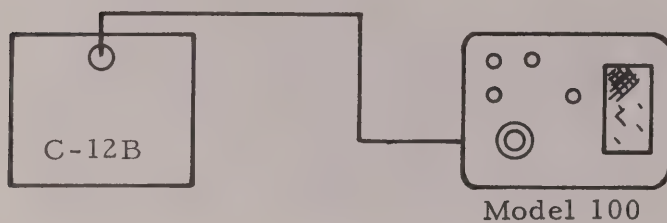
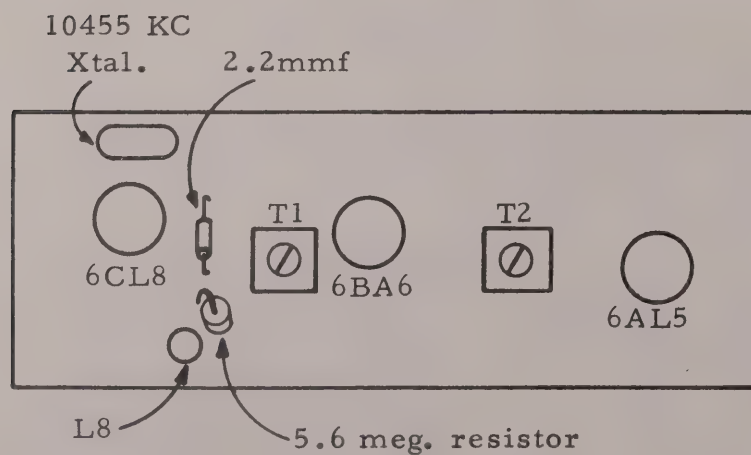

FIG. 1
FIG. 3
- (1) Remove case from the Executive
- (2) Remove 10455 KC second IF crystal
- (3) Connect high impedance DC VTVM probe to grid of second mixer. On late models 100 this will be the top of the 5.6 megohm resistor. On earlier sets this will be the lead from the 2.2 mmf capacitor nearest L8. (figure 3)
- (4) Set the Receive Selector to Tune
- (5) Apply a channel 9 signal from the C-12B to the Executive model 100A. Set the C-12B LEVEL control full clockwise. (figure 1)
- (6) Slowly tune the receiver thru channel 9 and note the VTVM reading. Off channel the VTVM will read between .5 and 1.0-dc. As you reach the channel the reading will increase (depending upon the amount of signal being applied) to 1.5 volts-dc or more. If the reading goes higher than 2.5 reduce the C-12B signal.